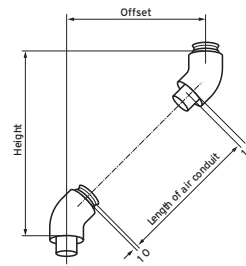

Fig. 6.4: Installation of 45° bends
- When using elbows for long flue runs in a corner follow fig. 6.4 and fig. 6.5 to avoid obstructions.
When using 87° elbow install with a slope of 3° between wall and air-flue pipe (fig. 6.4) or use 2 x 45° elbows (fig. 6.5).
**Note:** The elbows must be correctly aligned to avoid undue stress on the joints and risk of leakage. The elbow fitted to the top of the boiler (1) should be twisted by 3° to ensure that the second 87° elbow (2) exits the wall perpendicular. When using 87° elbow install with a slope of 3° between wall and air-flue pipe (fig. 6.4) or use 2 x 45° elbows (fig. 6.5).